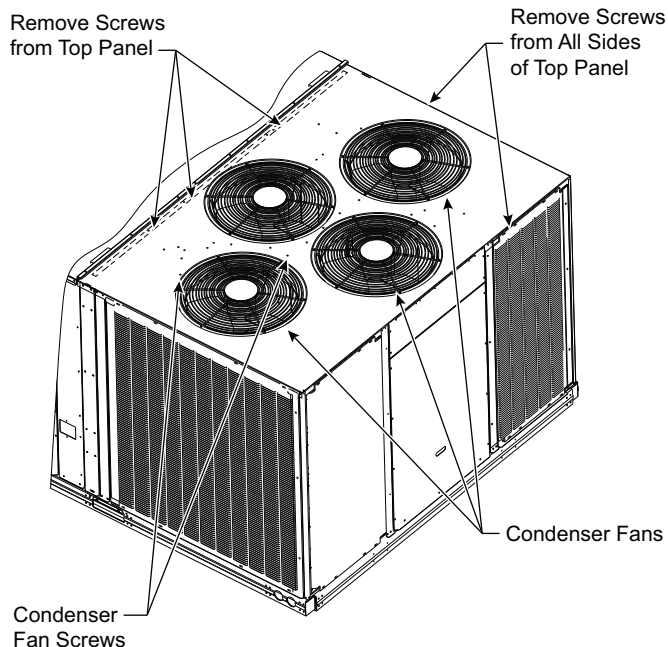

Fig. 21 — Location of Top Panel Screws and Coil Corner Post
2. Remove all screws from the top panel except the screws securing the condenser fan to the top panel. See Fig. 21.